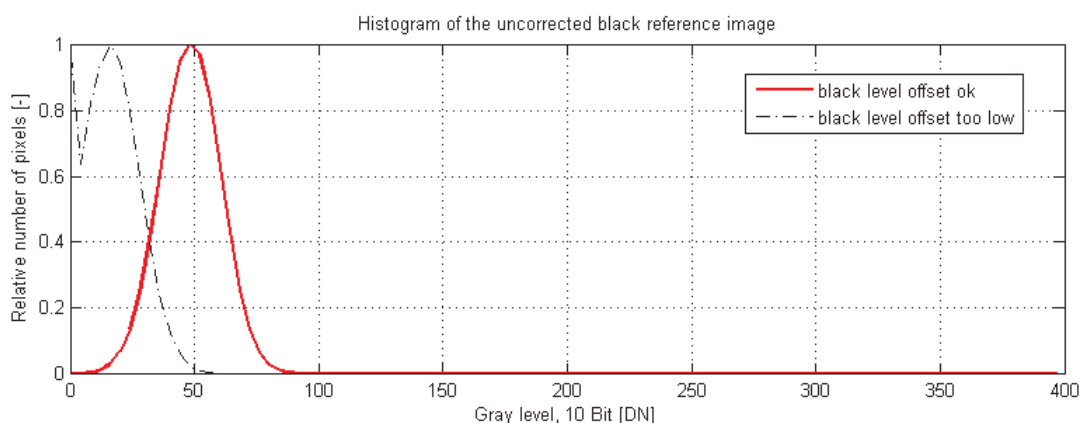

Figure 4.16: Histogram of a proper black reference image for offset correction
- It may be necessary to adjust the black level offset of the camera. In the histogram of the black reference image, ideally there are no grey levels at value 0 DN after adjustment of the black level offset. All pixels that are saturated black (0 DN) will not be properly corrected (see Fig. 4.16). The peak in the histogram should be well below the hot pixel threshold of 252 DN @ 10 bit.